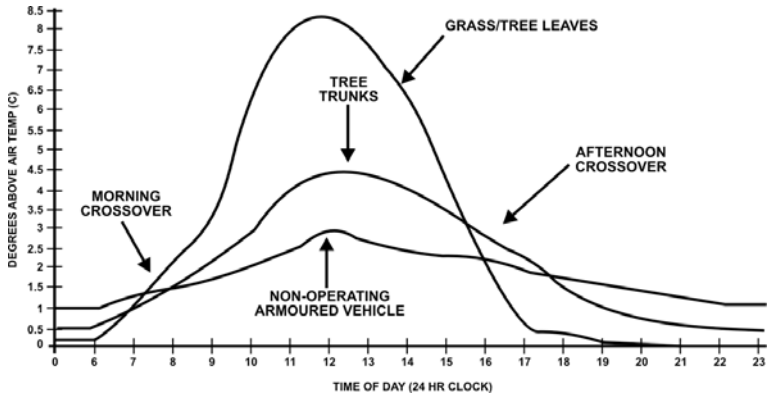

Figure 3-10: The Diurnal Cycle
26. During the diurnal cycle, individual background and target objects heat and cool at different rates. Large dense objects such as rocks, tree trunks and non-operating armoured vehicles heat and cool slowly. Lightweight objects such as grass, tree leaves, bushes and the surface layer of the ground heat and cool much more quickly. The more dense objects are said to have greater *thermal mass*, while the lightweight objects have low thermal mass. The diurnal cycle with example times is illustrated in Figure 3-10.